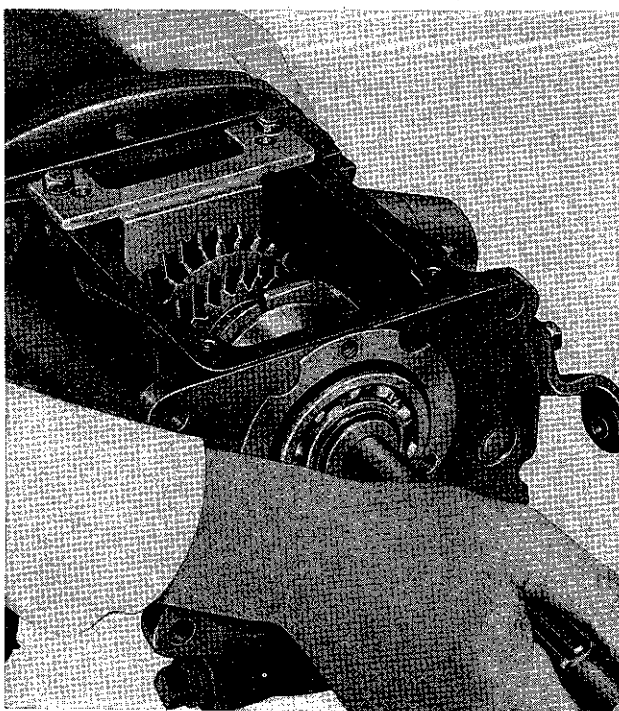

FIG. 213—MAINSHAFT RETAINING PLATE
e. Install transmission mainshaft retaining plate, tool W-194, Fig. 213, to prevent the mainshaft from pulling out of the transmission case. Should this tool be unavailable, loop a piece of wire around the mainshaft directly back of the low-speed sliding gear (40). Install the transmission cover right- and left-front attaching screws in the transmission case. Twist the wire and attach one end to each of the two screws. Draw the wire tightly.